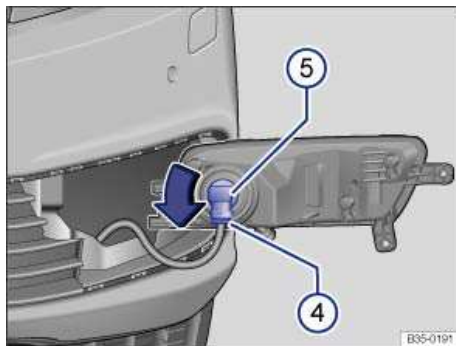

Fig. 203 In the removed light: Replacing the bulb.
| 7. | Release the connector ⇒ fig. 203 (4) and disconnect it. |